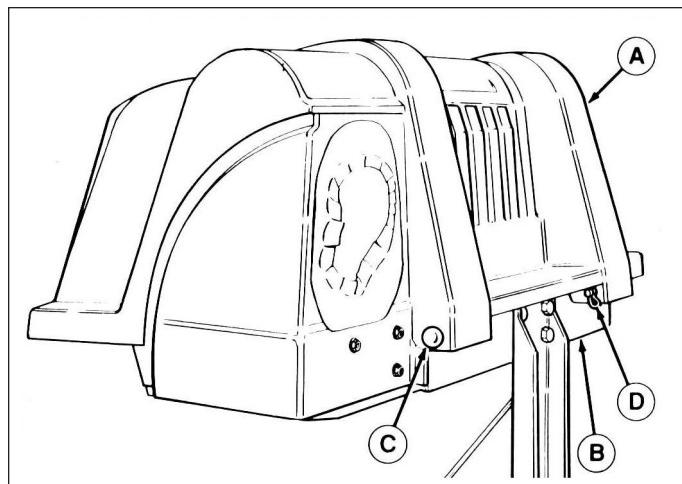

**Figure 14.**
1. Install horizontal bag support (A, figure 14) to upright catcher support (B) holes as shown. Note that the open set of holes (D) is toward the discharge side of mower. Install four 3/8-16 x 7/8 capscrews (C) from the front and lightly secure with flange lock nuts.